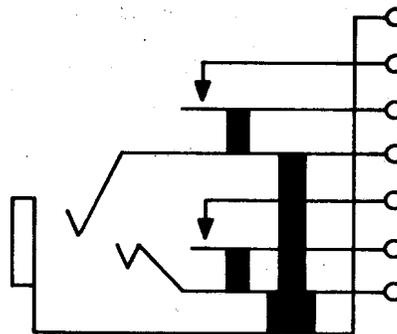

Fig. 5—285-Type Jack
**2.05 285A, C, AM, and CM:** These single-mounted jacks (Fig. 5) are used with the 310 and similar-type plugs.